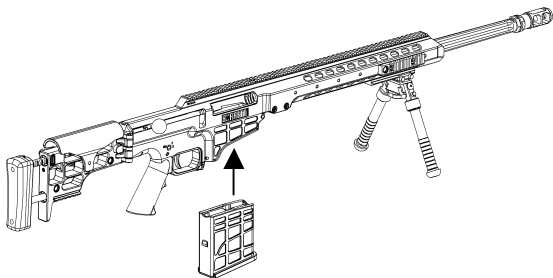

Figure 5.
3. Insert a loaded magazine into the rifle. (*Figure 5.*) The magazine inserts straight into the magazine well from the bottom.